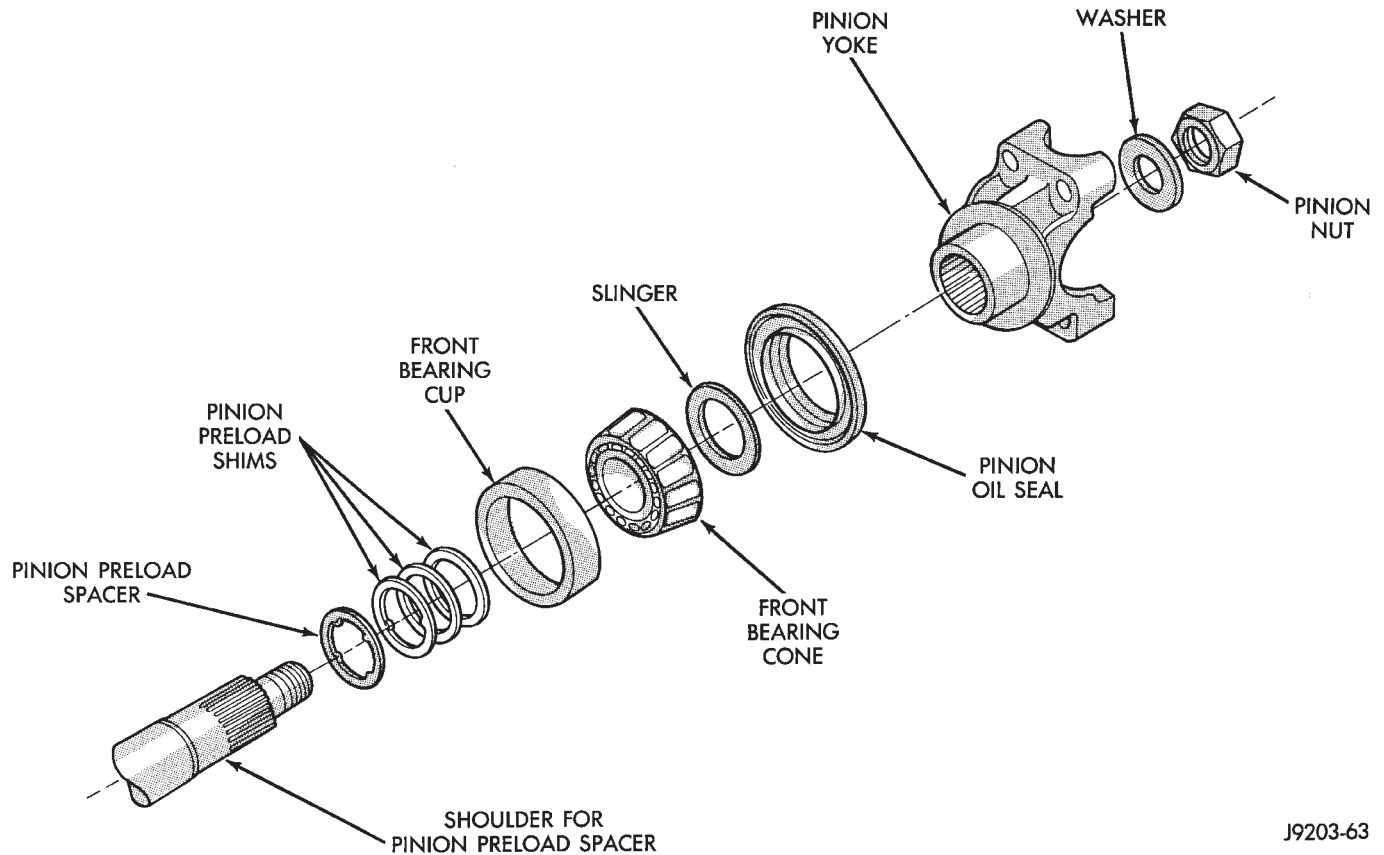

Fig. 31 Pinion Preload Shims
(7) Install pinion bearing preload shims (Fig. 31).